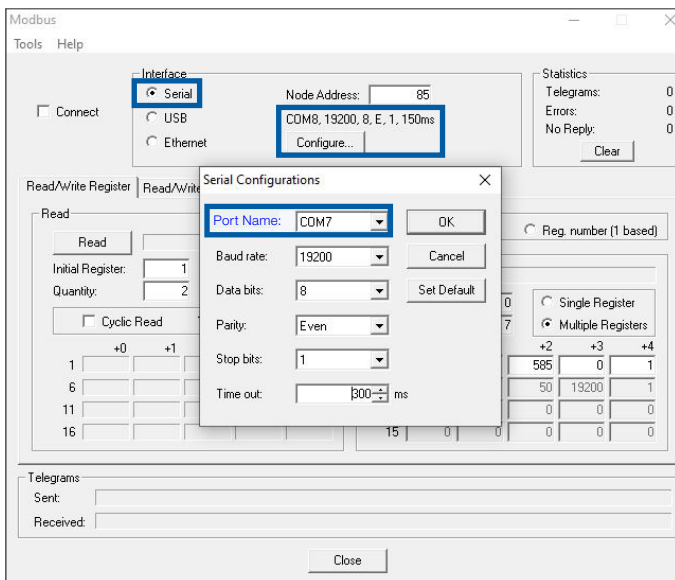

Figure 14 - Modbus parameter setting
- Step 3: Communication common port configure (refer to Figure 14).